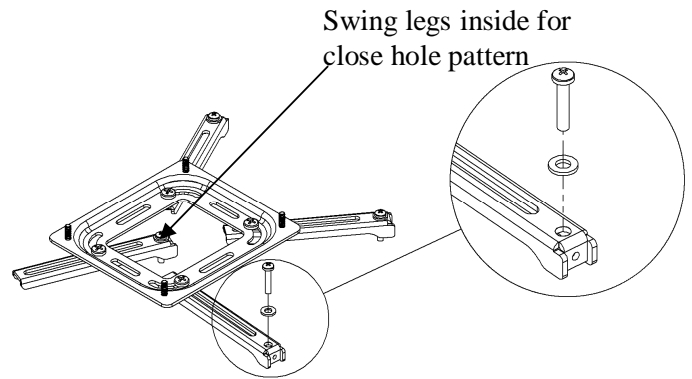

Figure 12. Install the SLBO/SLMO on Projector (SLBO Shown)
- a. Place the SLBO/SLMO (10) on your projector.
- b. Adjust the legs on the SLBO/SLMO (10) as needed. Align the legs on the SLBO/SLMO with mounting holes on your projector.
- c. Attach the SLBO/SLMO to the projector using the selected fasteners in accordance with Table 6 (see Figure 12). Do not tighten the screws at this time.